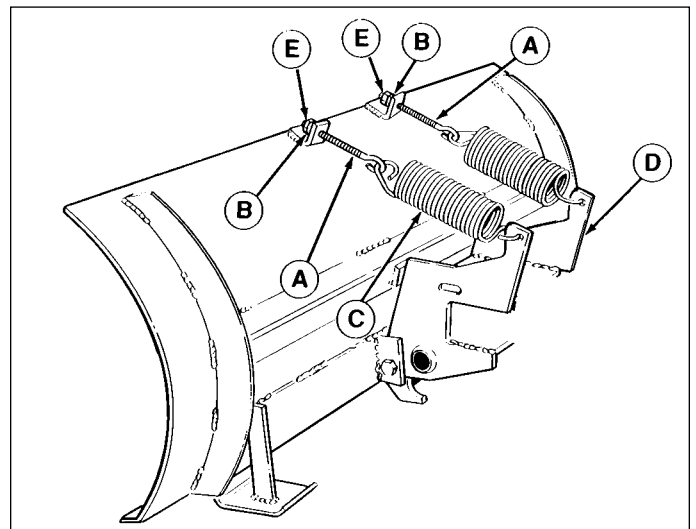

Figure 5. Tension Springs
See Figure 5. To adjust spring tension hold rear nut (B) and loosen front nut (E). Tighten rear nut (B) to increase spring tension, or loosen to decrease tension.